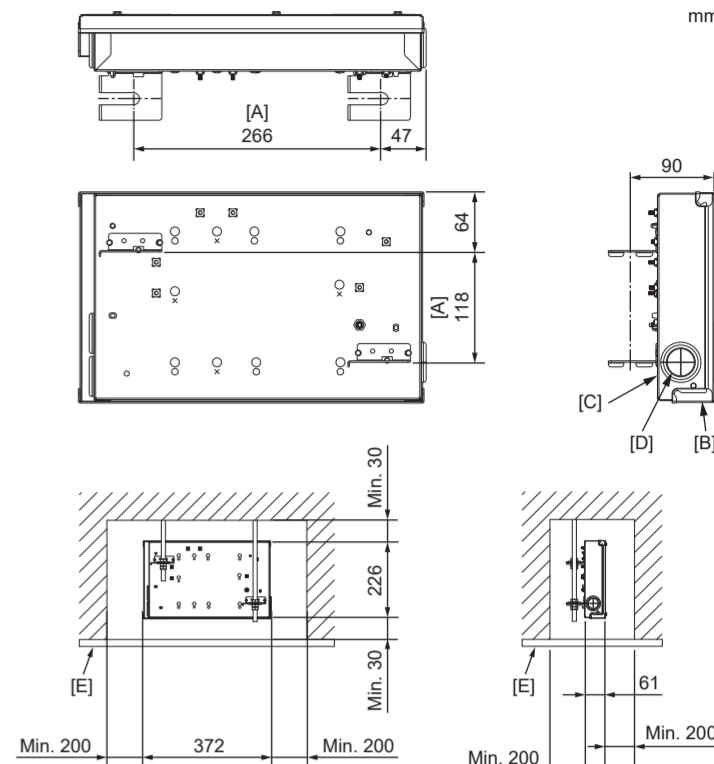

Fig. 4-1
4.1. Space required for suspension bolt installation and servicing (Fig. 4-1)